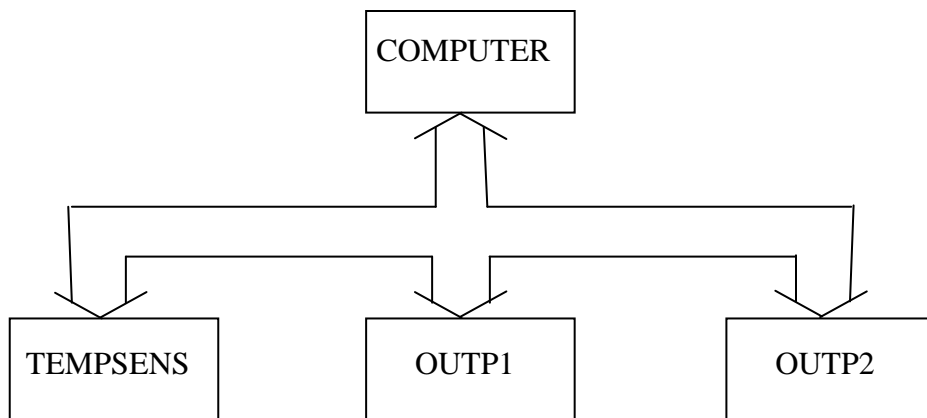

Figure 3(b)
- (b) A computer-based instrumentation and measurement system based on GPIB or IEEE 488 databus has been proposed. Figure 3(b) shows the arrangement. The system comprises of a temperature sensor (TEMPSENS), output devices (OUTP1 and OUTP2) and a computer.
Referring to Figure 3(b), TEMPSENS is digital sensor with the ability to measure and transmit data at rate of more than 4 Mb/sec. Meanwhile OUTP1 and OUTP2 are both printers capable of printing data at consistent speeds of 2 Mb/sec and 3 Mb/sec respectively. Draw the handshake timing (\overline{DAV} , \overline{NRFD} and \overline{NDAC}) diagram showing clearly how data can be transferred from TEMPSENS to OUTP1 and OUTP2. From this diagram, determine which instrument controls the overall speed of data transmission. State your reason.